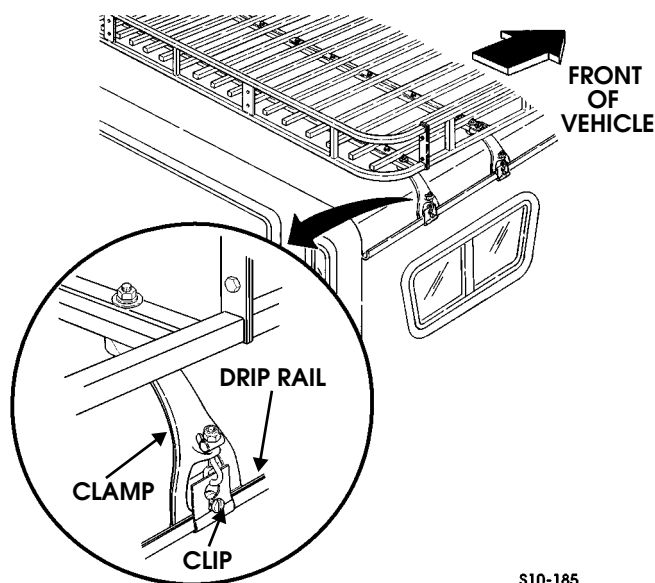

Figure 13-53: Roof Rack Clamp
1. Loosen eight support screws on clamps (Figure 13-53).
1. Position roof rack on top of vehicle with rack ends toward front and rear of vehicle (Figure 13-53).